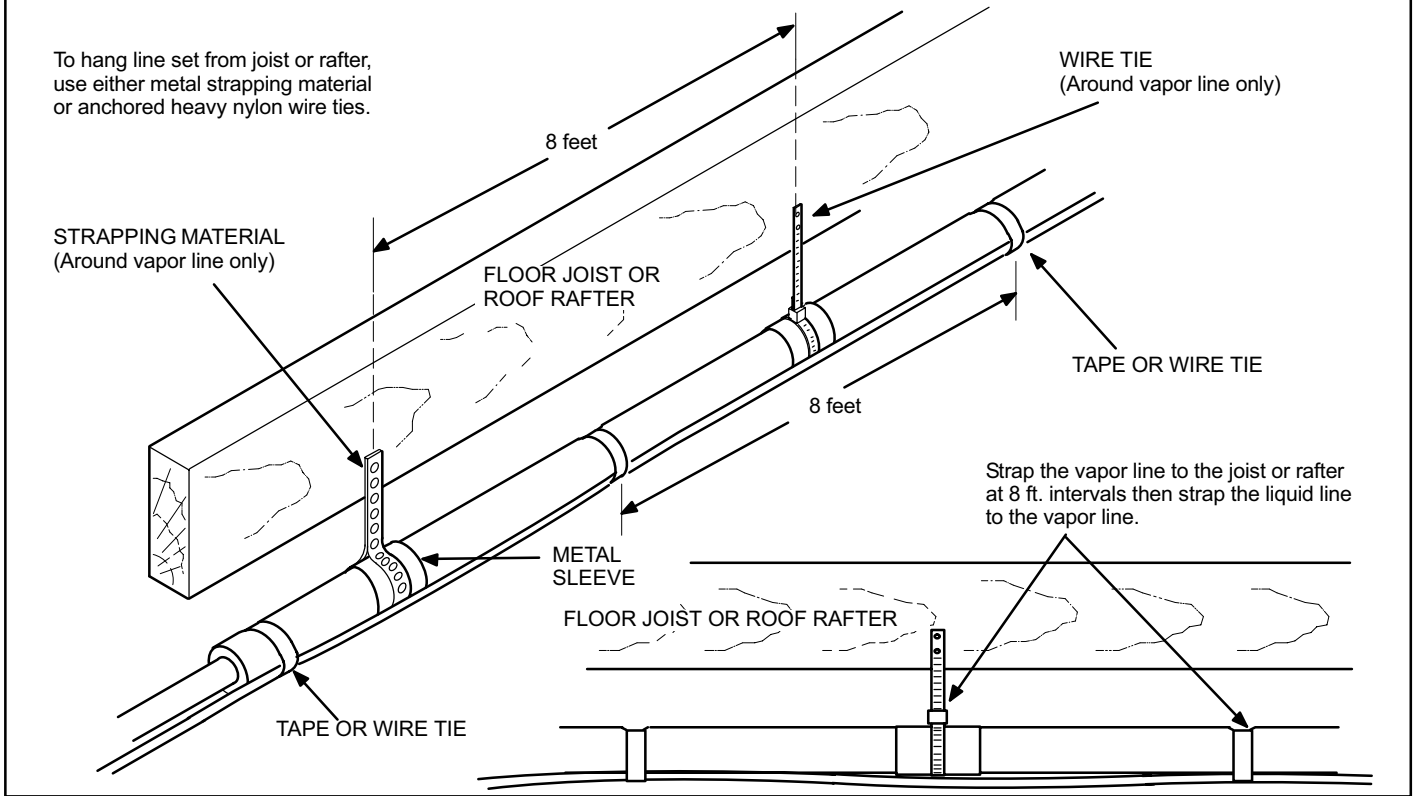
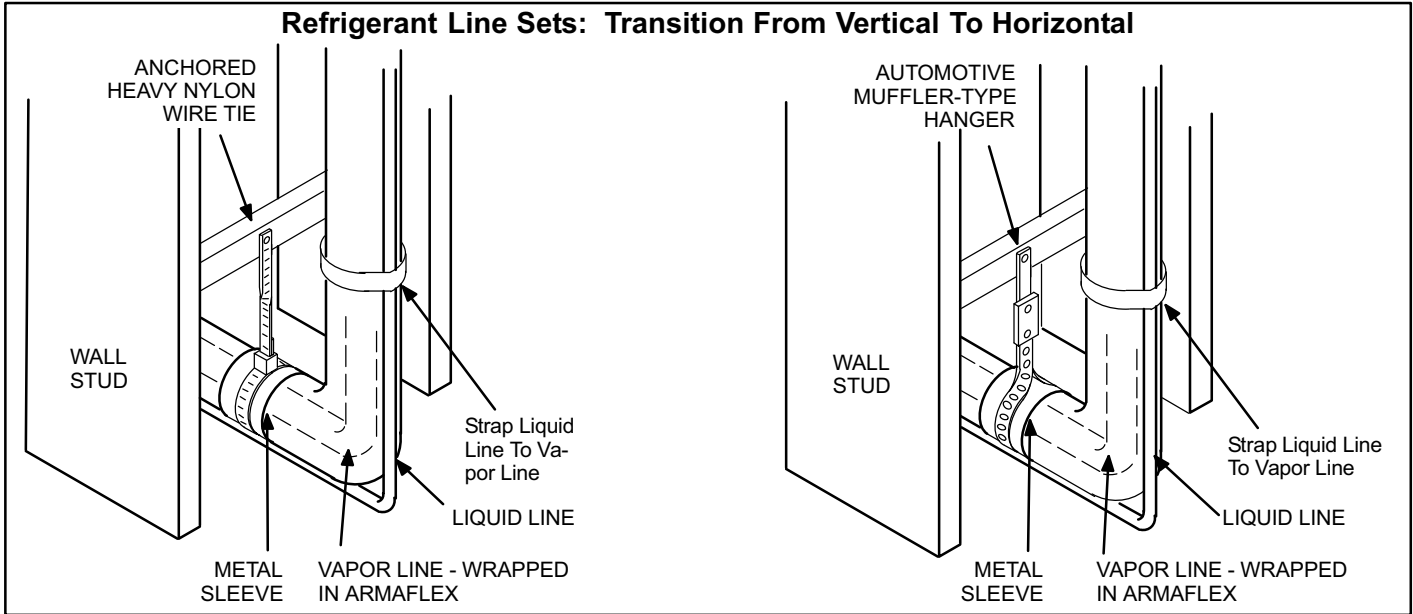
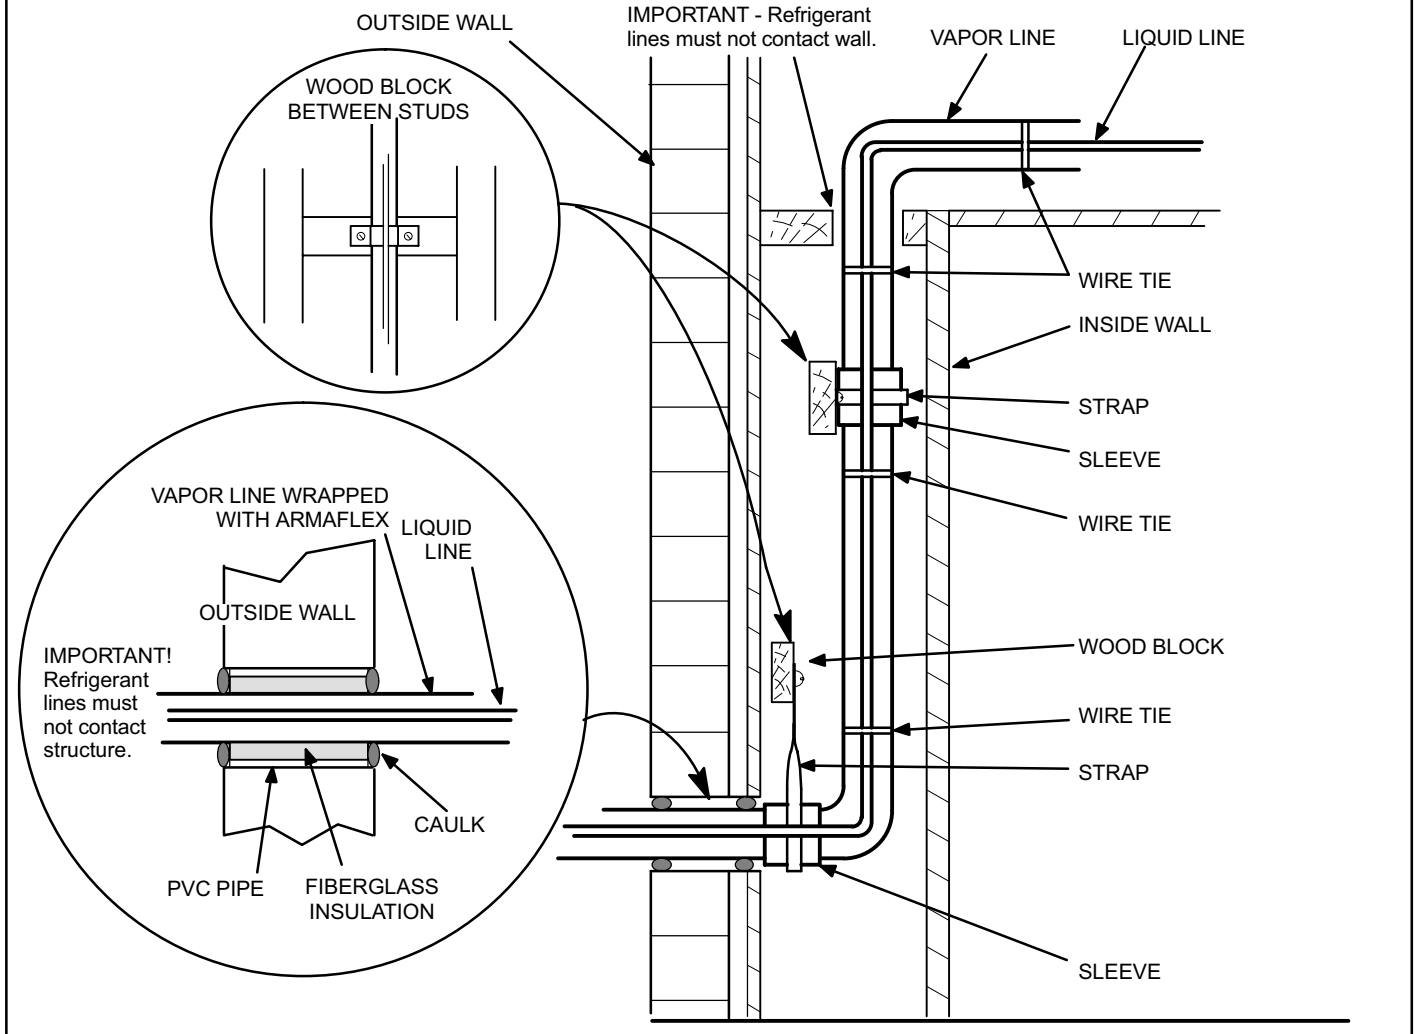

Figure 6
Figure 7
Figure 8
2. **Line Set Isolation**—The following illustrations demonstrate procedures which ensure proper refrigerant line set isolation. Figure 6 shows how to install line sets on horizontal runs. Figure 7 shows how to make a transition from horizontal to vertical. Figure 8 shows how to install line sets on vertical runs.